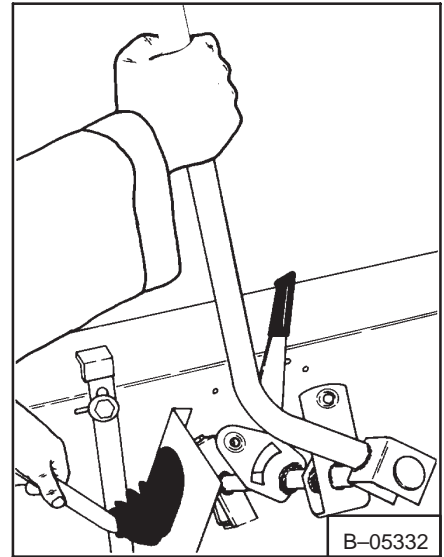

Fig. 3-9 Steering Lever Assembly
8. Remove the steering lever assembly from the loader (Fig. 3-9).
1. Install the steering levers assembly into the loader (Fig. 3-9).